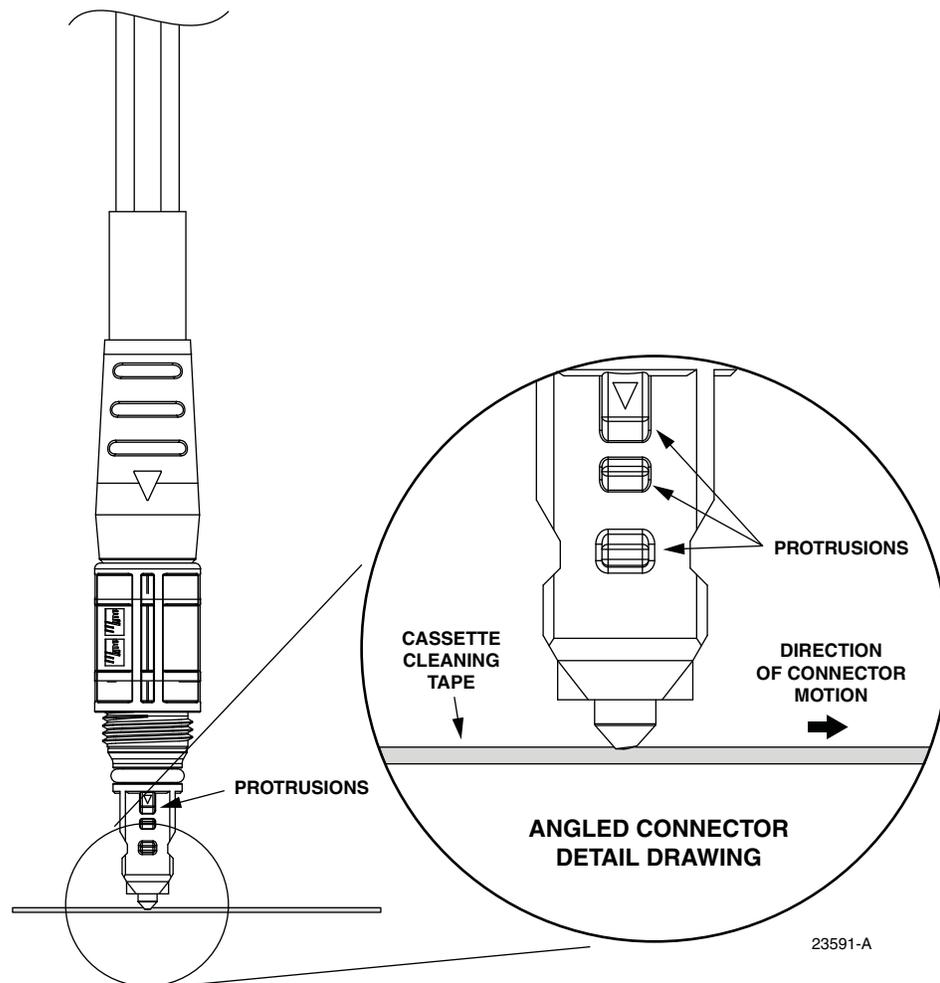

Figure 17. Typical Angled Connector End-Face Detail
3. Examine the end of the drop cable connector, note the position of the protrusions on the connector, see Figure 17.